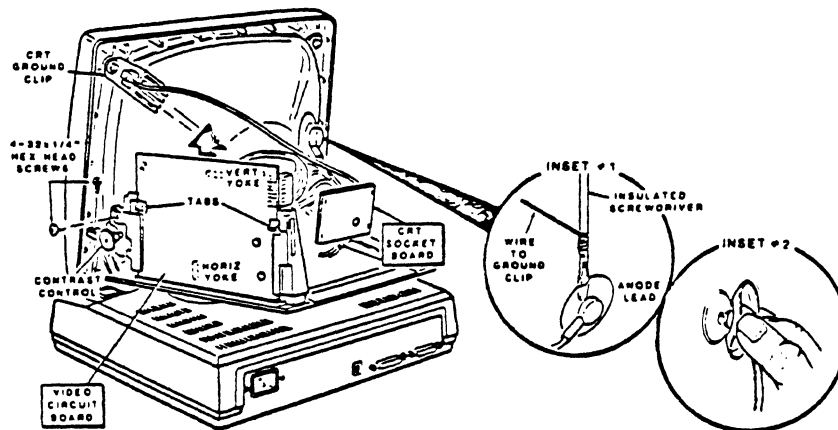

Figure 4-5
To remove the video circuit board for servicing, refer to Figure 4.5 while performing the following steps.
2. Refer to the inset drawing #1 on Figure 4.5 and discharge the CRT as shown.
3. Refer to the inset drawing #2 on Figure 4.5 and disconnect the anode lead from the CRT.